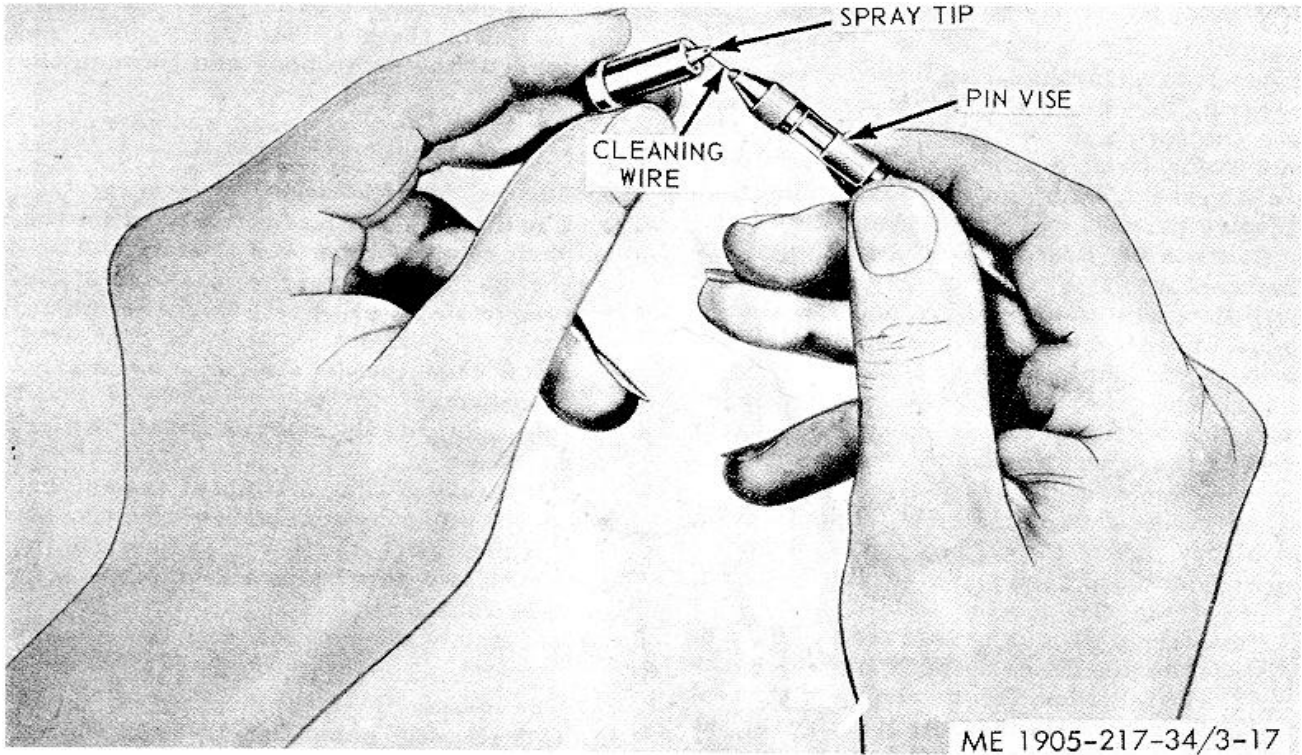

Figure 3-17. Cleaning fuel injector spray tip orifices.
(3) Clean the spray tip orifices with pin vice and proper size spray tip cleaning wire (fig. 3-17). Use wire J-21461 to clean 0.006 inch diameter holes. Before using the wire, hone the wire, end until it is smooth and free of burs, allow the wire to extend 1/8 inch from tool.